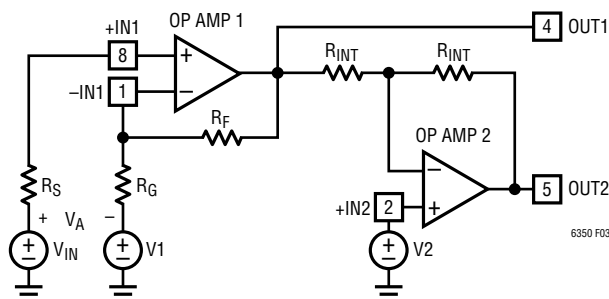

Figure 3. General Configuration
Because the input op amp presents its output and both its inputs to LT6350 pins, alternative configurations are possible. Consider the general configuration shown in Figure 3.
The simple connection described in the Basic Connections section can be seen as a special case of the general circuit in Figure 3 where  $R_F$  is a short circuit,  $R_G$  is an open circuit, and the voltage at  $V_{IN}$  is centered around the voltage  $V_2$ . If differential gain greater than two is needed, the values of  $R_F$  and  $R_G$  can be adjusted in accordance with Equation (2). Additional information about feedback networks is given in the next section and in the Input Amplifier (Op Amp 1) Feedback Components section.
Although the previous examples have assumed the input signal is applied at +IN1, it is also possible to use the input op amp in an inverting configuration by fixing the voltage  $V_{IN}$  and applying the input signal at  $V_1$  of Figure 3. Using the input op amp in the inverting configuration fixes its input common mode voltage at the voltage  $V_{IN}$ , which allows the input signal at  $V_1$  to traverse a swing beyond the LT6350 supply rails. To avoid unwanted differential offsets in this configuration  $V_{IN}$  should be chosen such that:
When feedback resistors are used to set gain in op amp 1, care should be taken to ensure that the pole formed by the feedback resistors and the total capacitance at the inverting input, -IN1, does not degrade stability. For instance, to set the LT6350 in a differential gain of +4,  $R_F$  and  $R_G$  of Figure 3 could be set to  $1k\Omega$ . If the total capacitance at -IN1 (LT6350 plus PC board) were  $3pF$ , a new pole would be formed in the loop response at  $106MHz$ , which could lead to ringing in the step response. A capacitor connected across the feedback resistor and having the same value